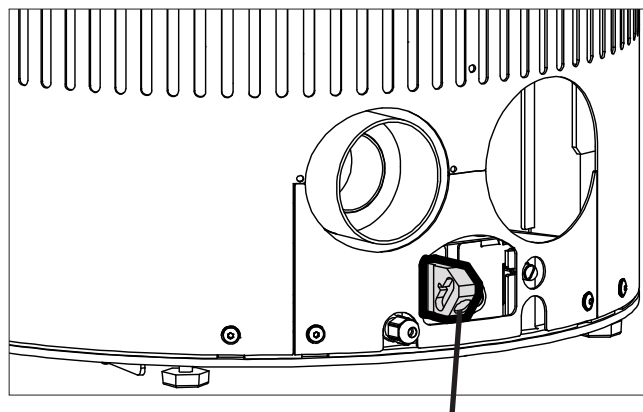

Fig.5
- Plug the provided plug into the socket on the rear of the appliance (Fig.5). If the appliance will be operated with accessories (external room thermostat and / or remote control) the connecting lines must be connected to the plug beforehand as described in the accessory instructions.